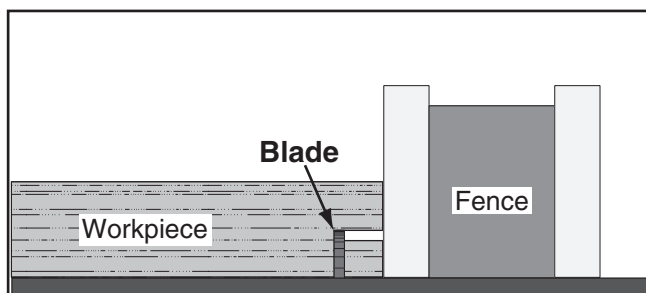

Figure 67. Example of second cut to create a rabbet.
7. Lay workpiece flat on table, as shown in **Figure 67**, adjust saw blade height to intersect with first cut, then perform second cut to complete rabbet.